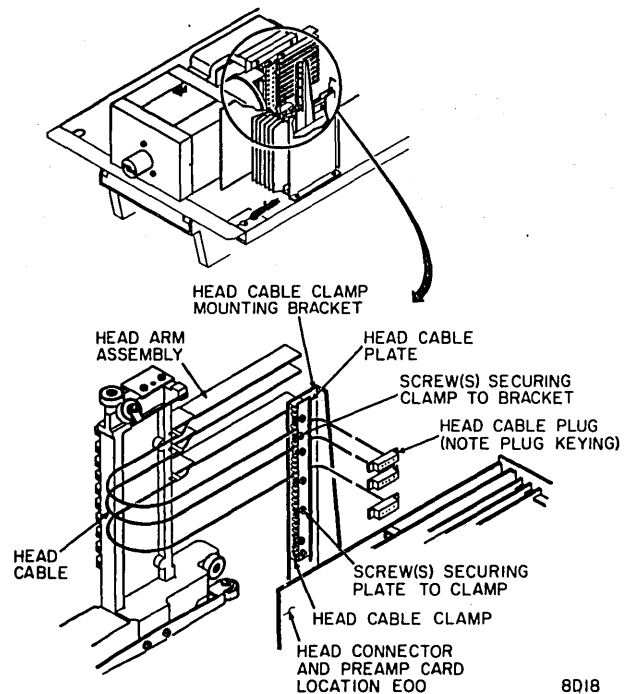

Figure 3-28. Head Cable Clamping/Connecting
5. Remove head cable plate (Figure 3-28).